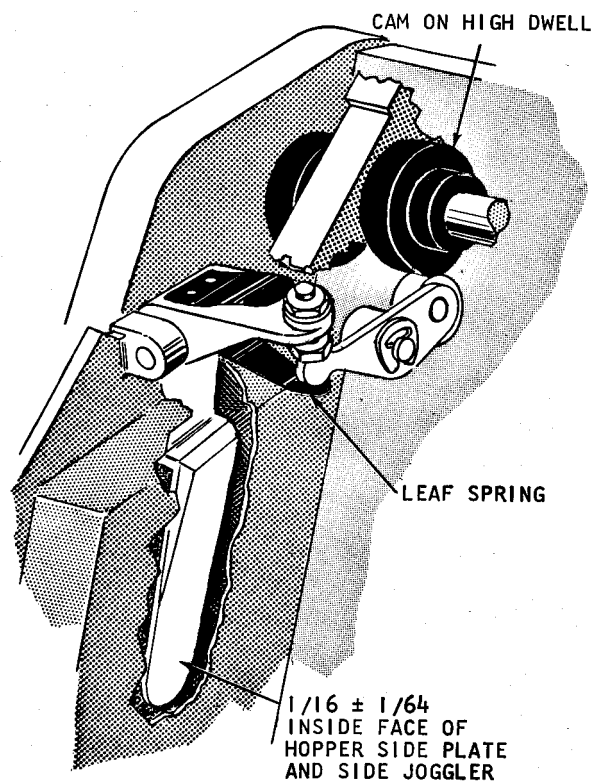

Figure 14. Side Joggler
3. Turn the file feed drive until the hopper joggler cam follower is on the high dwell of the cam. Set the adjustment screw for  $\frac{1}{16}'' \pm \frac{1}{64}''$  travel of the side joggler past the inside face of the hopper side plate (Figure 14).